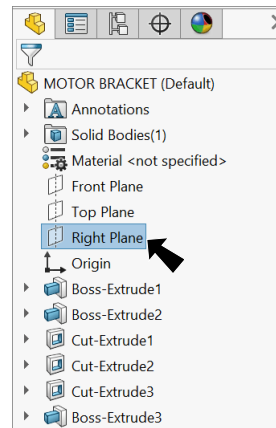

Fig. 44
Step 1. Click **Right Plane** in the Feature Manager to display Plane in graphics area, **Fig. 44**.